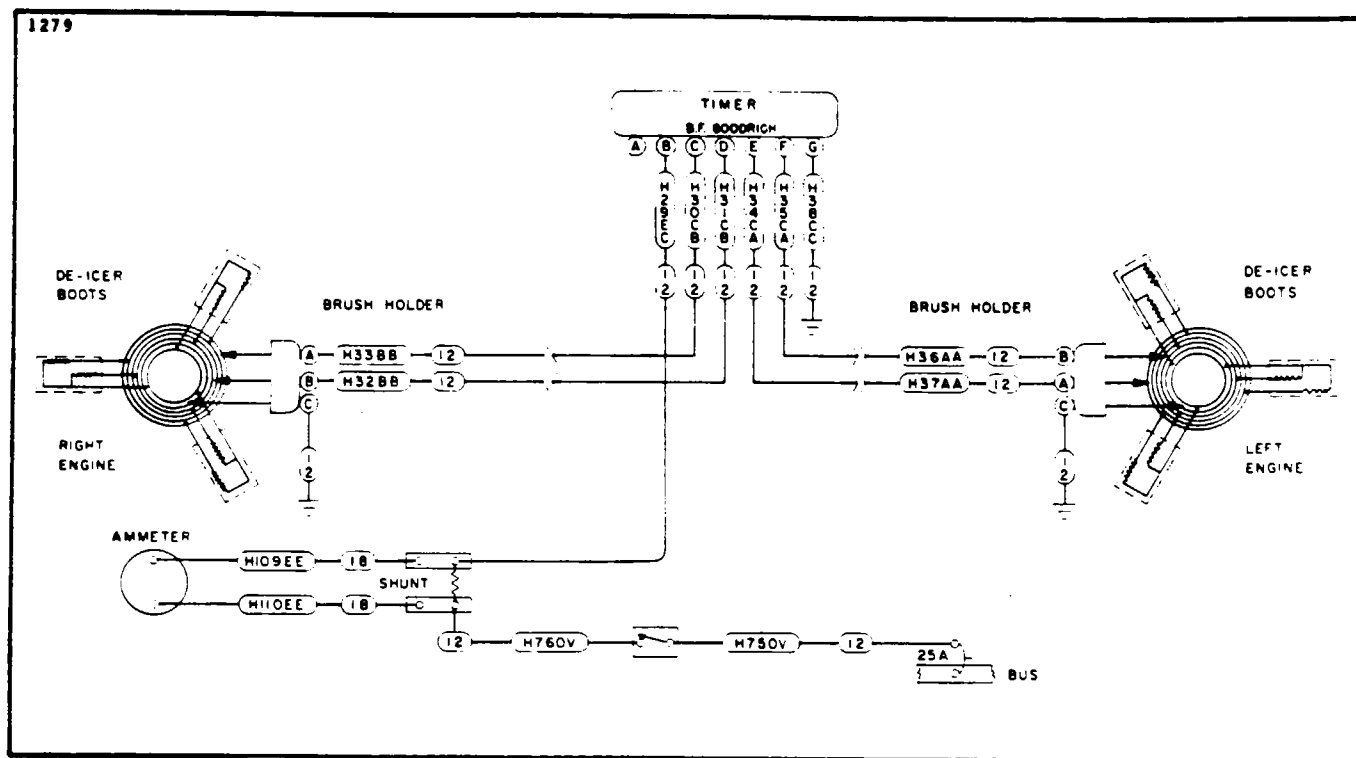

Figure 30-11. Wiring Schematic, Electric Propeller Deicing System
8. System Wiring: With deicer system operating, have assistant observe ammeter while visually inspecting and physically flexing wiring from brush blocks through fire wall, to timer, to ammeter, to switch and to aircraft power supply. The ammeter will flicker as the timer switches approximately every 30 seconds in the cycle. Jumps or flickers at other times indicates loose or broken wiring in the area under examination at that moment. In such case, check continuity through affected harness, while flexing and prodding each wire in the area that gave initial indication of trouble. Use the wiring diagram in Figure 30-11 to trace circuitry.